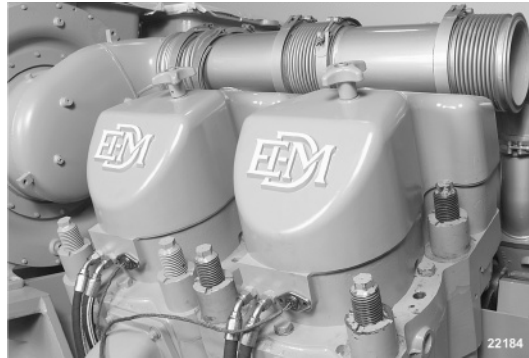

Figure 7.7 *Rocker Box Cover.*
2. Remove the rocker box cover from the cylinder to be worked on. (*figure 7.7*)